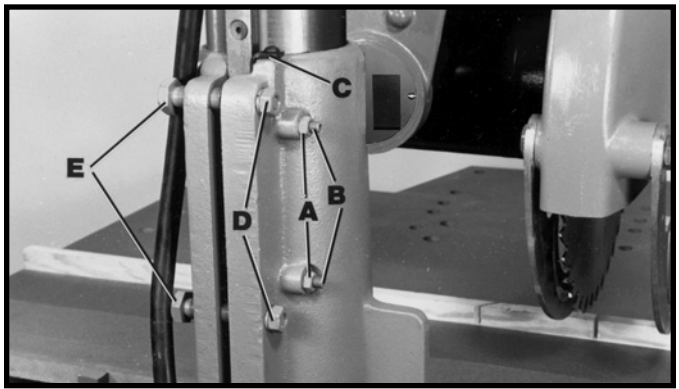

Fig. 31
1. Loosen hex nuts (A) and gib adjusting screws (B) and (C) Fig. 31.
2. Loosen nuts (D) Fig. 31, and adjust bolts (E), so that base wraps around column securely. If column is tight in base, turn bolts (E) clockwise to loosen. **IMPORTANT:** Turning bolts (E) clockwise will open the base jaws, while turning bolts (E) counter-clockwise and tightening nuts (D) will close the base jaws. Check elevation by turning crank handle, making sure the column moves up and down without binding.
3. Tighten screws (B) Fig. 31, against the column gib until all side motion disappears in over-arm.
4. Securely lock hex nuts (A) while holding screws (B) and tighten screw (C).